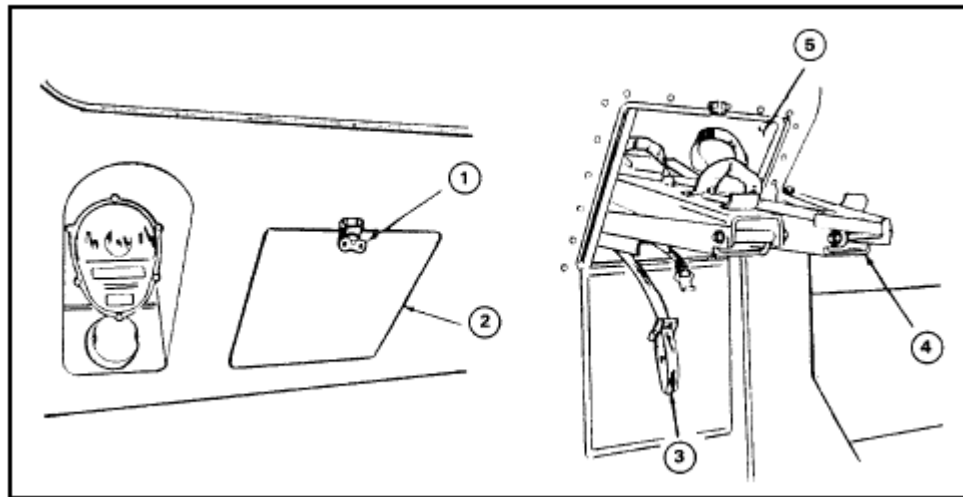
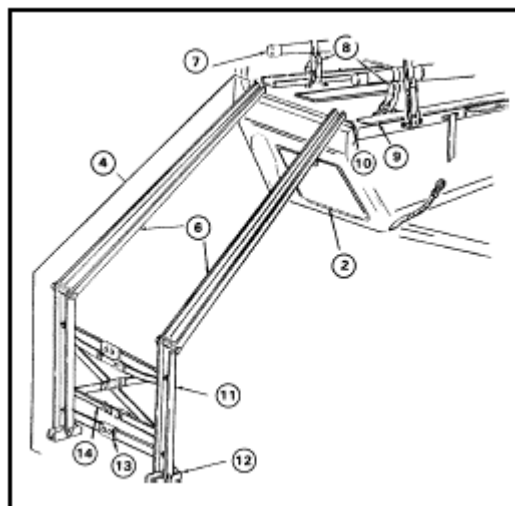
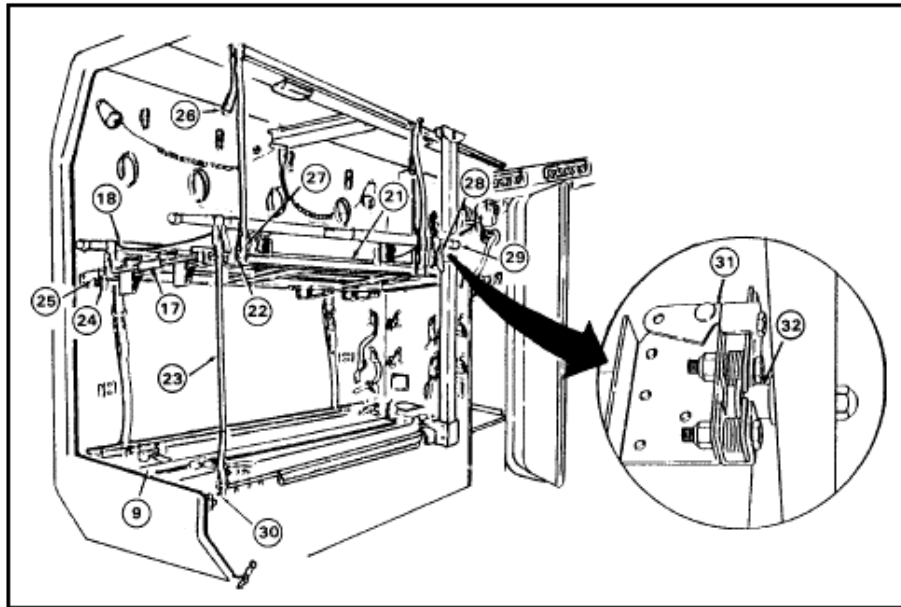

Figure 3-49
Figure 3-50
Figure 3-51
- (1) Assemble litter rail extension for M996 (Figures 3-49 and 3-50).
- (a) Turn latch (1) counterclockwise and open stowage compartment door (2).
- (b) Loosen and disconnect securing strap (3) and remove folded litter rail extension (4) from stowage compartment (5).
- (c) Pull left and right rails (6) apart and let legs (11) drop down. Ensure feet (12) are flat on ground.
- (d) Lock support braces (13) and adjust straps (14) as necessary.
- (2) Load litters on litter rack (Figure 3-50).
- (a) Secure both rails (6) of litter rail extension (4) into slots (10) on litter rack (9).
- (b) Place litter (7) on litter rail extension (4).
- (c) Slide litter (7) onto litter rack (9).
- (d) Secure litter (7) to litter rack (9) with front and rear litter handle straps (8).
- (3) Unload litters from the litter rack (Figure 3-50).
- (a) Release front and rear litter handle straps (8) securing litter (7) to litter rack (9).
- (b) Secure both rails (6) of litter rail extension (4) into slots (10) on lower litter rack (9).
- (c) Slide litter (7) from lower litter rack (9) onto litter rail extension (4). Lift up and remove litter (7) from litter rail extension (4).
- (4) Fold and stow litter rail extension for M996 (Figures 3-49 and 3-50).
- (a) Unlock support braces (13).
- (b) Fold left and right rails (6) together.
- (c) Fold left and right litter rail legs (11) and feet (12) against rails (6).
- (d) Place folded litter rail extension (4) into stowage compartment (5) and secure with strap (3).
- (e) Close door (2) and turn latch (1) clockwise to secure door (2).
- a. Prepare the upper litter rack (Figure 3-51).
- (1) Unhook tension strap (23) from footman loop (30) on lower litter rack (9).
- (2) Pull out upper litter rack handle (17) and support weight of upper litter rack (21).
- b. Assemble the litter rail extension (Figures 3-50 and 3-52).
- (3) Lift tray (15) slightly and push in tray supports (16) to lower tray (15) for access to stowed litters.
- (4) Pull left and right rails (6) apart and let legs (11) drop down. Ensure feet (12) are flat on ground.
- (5) Lock support braces (13) and adjust straps (14) as necessary.
- c. Load litters on upper litter racks (Figures 3-51 and 3-53).
- (2) Place litter (18) on litter rail extension (4).
- (3) Slide litter (18) up rails (4) until litter (18) is clear of litter rail extension (4).